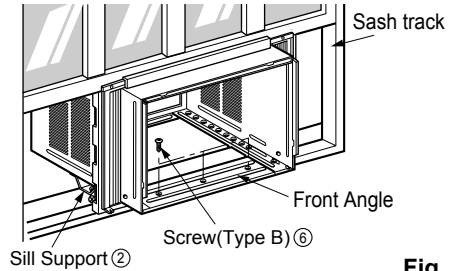

Fig. 5
- 6 The cabinet should be installed with a very slight tilt (about 12.7 mm) downward toward the outside (See Fig. 5).